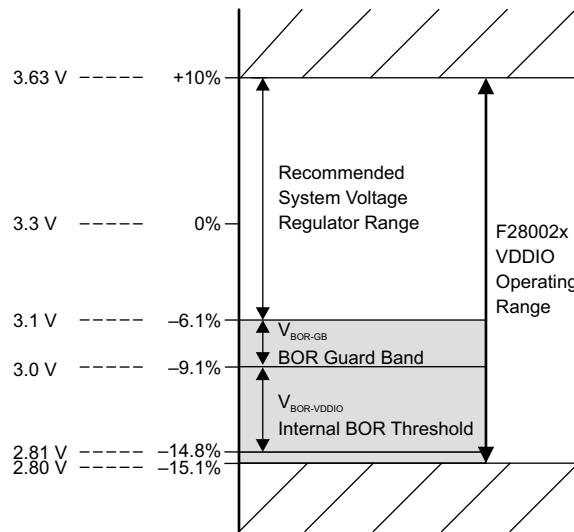

Figure 5-1. Supply Voltages
- (1) Internal BOR is enabled by default.
- (2) The VDDIO BOR voltage ($V_{BOR-VDDIO}[MAX]$) in Electrical Characteristics determines the lower voltage bound for device operation. TI recommends that system designers budget an additional guard band (V_{BOR-GB}) as shown in Figure 5-1.
- (3) Supply ramp rate faster than this can trigger the on-chip ESD protection.
- (4) TI recommends V_{BOR-GB} to avoid BOR resets due to normal supply noise or load-transient events on the 3.3-V VDDIO system regulator. Good system regulator design and decoupling capacitance (following the system regulator specifications) are important to prevent activation of the BOR during normal device operation. The value of V_{BOR-GB} is a system-level design consideration; the voltage listed here is typical for many applications.
- (5) Operation above $T_J = 105^\circ\text{C}$ for extended duration will reduce the lifetime of the device. See Calculating Useful Lifetimes of Embedded Processors for more information.